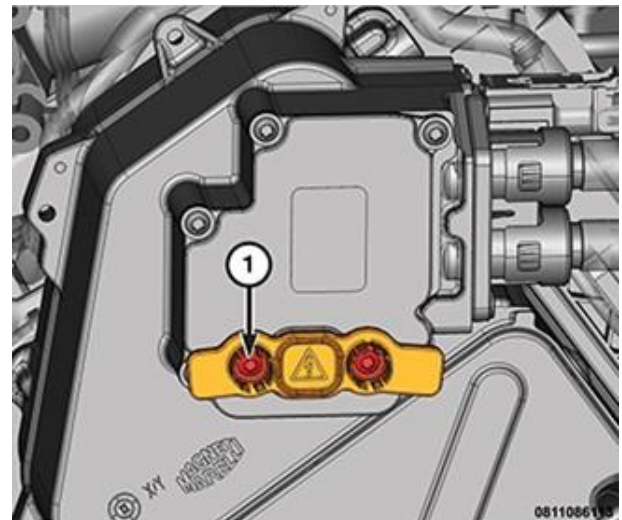

Figure 23 – HVIL Connector
33. Loosen the two captive screws (1) and remove the single High Voltage Inter-Lock (HVIL) connector from the Power Inverter Module (PIM) cover (Figure 23).